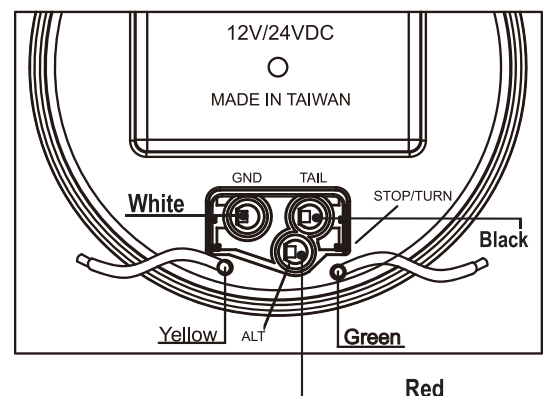

Figure 1: represents Normal Mode(default)
Step 6 “Simultaneous Flash” – or – “Alternate Flash” (Assume wire color legend from Figure 1)